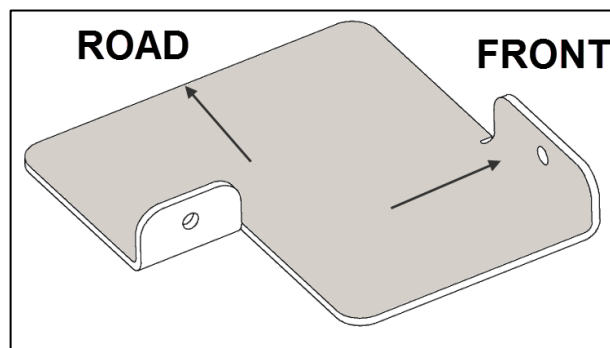

FIGURE 4
4. Install the upper post support **#270052**. Refer to Figure 4 for bracket orientation.